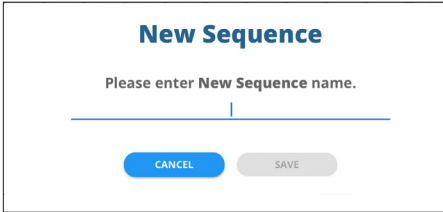
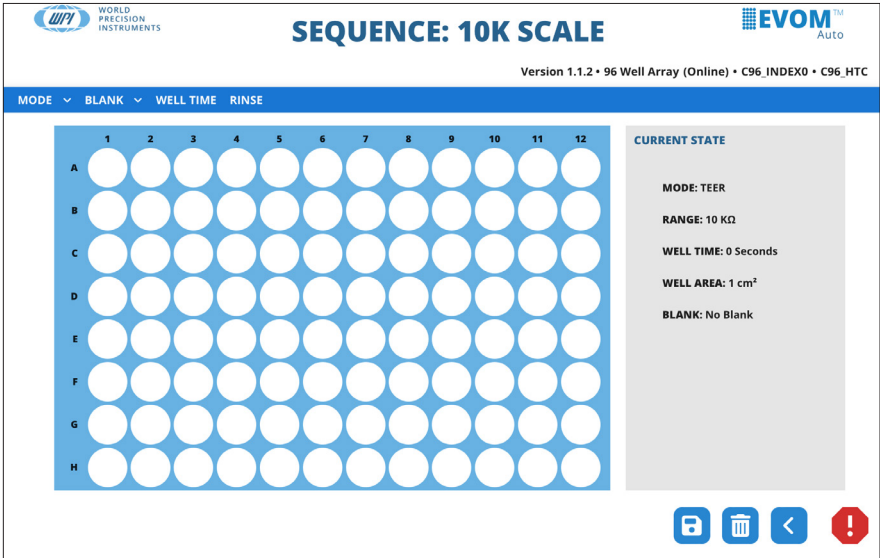

Fig. 28—Use this popup to name your sequence.
Fig. 29—The *Sequence* window lets you define a sequence.
3. If there is more than one EVOM™ Auto systems being used with the iPad, you will need to go to the Wi-Fi settings on the iPad to select your device in order to establish a connection. Sometimes the bookmarked URL may not work to establish a connection. If a connection is unsuccessful, ensure that the iPad is connected to the correct Wi-Fi network for your EVOM™ Auto. Then, click on the WPI icon (Fig. 29). If you are not using the provided iPad tablet, open a browser and navigate to <https://192.168.54.1:5000>.
If you select *New Sequence*, a popup allows you to name the sequence (Fig. 28). Enter a name and press *Save* to continue or *Cancel* to return to the main window without saving. The *Sequence* window appears (Fig. 29). The new sequence name is displayed on top of the window.